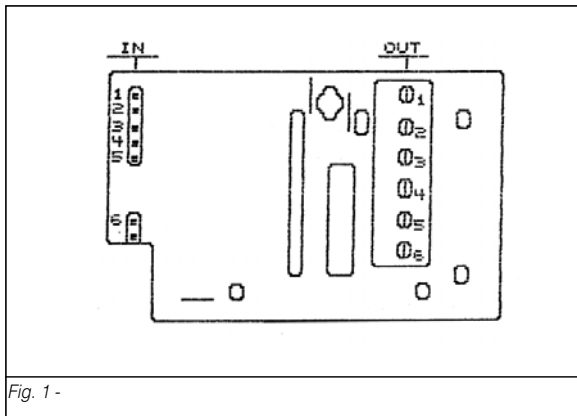

Fig. 1 -
- remove the retainer plate to have access to the connections (fig.1). To do so it is not necessary to disconnect the IN terminal from the card